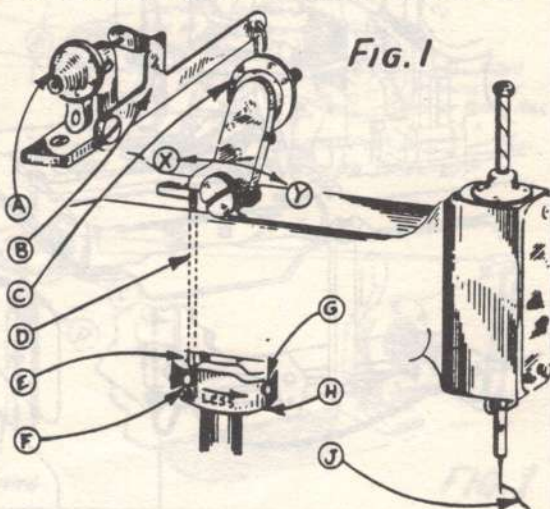

Fig. 1
TO OBTAIN MAXIMUM LENGTH OF STARTING THREAD AT (J) PROCEED AS FOLLOWS: MAKE SURE MACHINE IS IN ITS NORMAL STOPPING POSITION. LOOSEN SCREWS (F) AND (G) AND ROTATE CAM (H) TO THE POINT WHERE PIN (D) IS AT THE BOTTOM OF THE CAM DROP AT (E) AS SHOWN FIG. 1. THEN TIGHTEN SCREWS (F) AND (G) SECURELY.
TO DECREASE THE LENGTH OF STARTING THREAD AT (J) ADJUST THE POSITION OF CAM (H) AS REQUIRED IN THE DIRECTION OF ARROW MARKED LESS, FIG. 1.